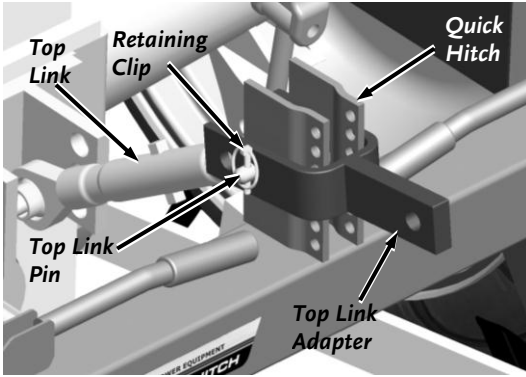

Figure 9
4. Position the Top Link Adapter over the 3PT Quick Hitch and Insert the Top Link Pin capturing the Top Link Adapter, Quick Hitch and Top Link. Secure with Retaining Clip (**Figure 9**).